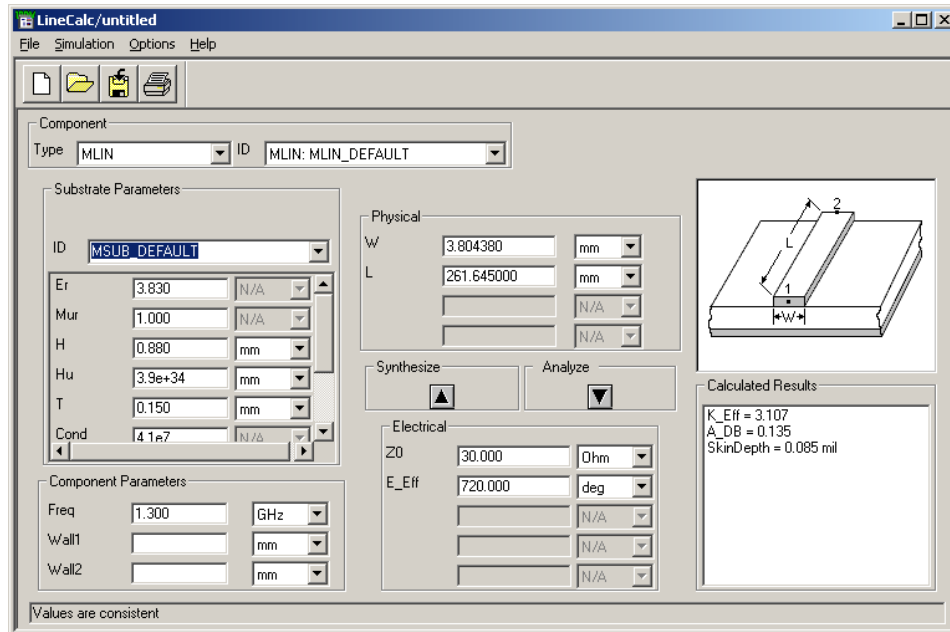

Figure 3 LineCalc window showing microstrip calculations.
8. Open the LineCalc tool **Tools – LineCalc – Start LineCalc**. LineCalc (see Fig. 3) is used to determine the width and length of transmission lines based on the substrate parameters and frequency of operation.